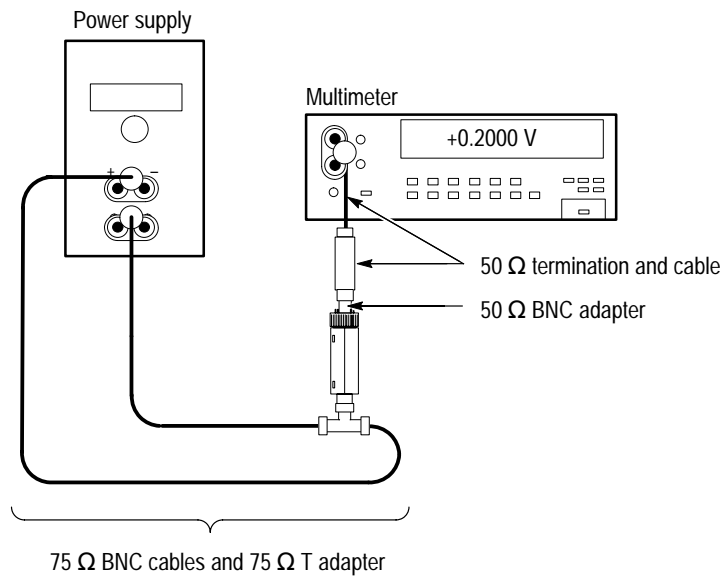

Figure 7: Measuring the attenuation accuracy
5. Connect the equipment as shown in Figure 7.